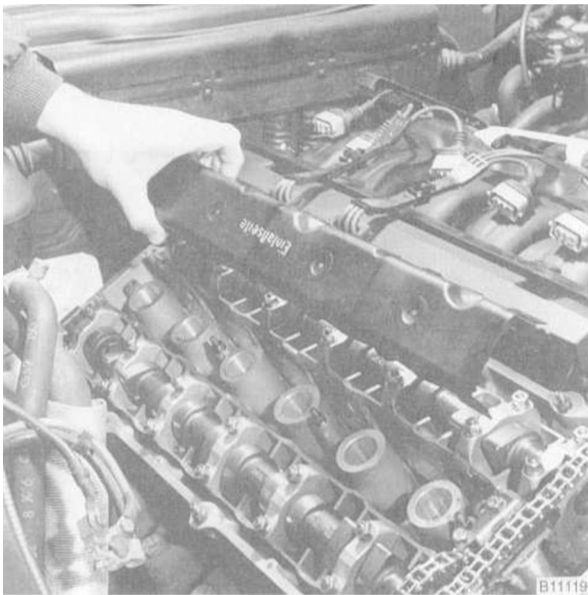

Fig. 5. Oil baffle cover being removed.
9. Remove the cylinder head cover mounting bolts and remove the cylinder head cover. Unclip and remove the baffle cover from above the intake camshaft. See Fig. 5.